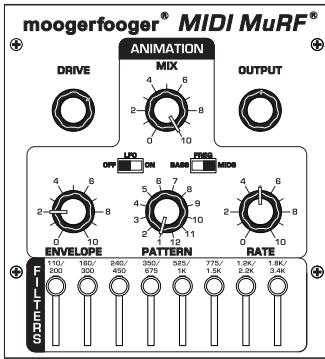
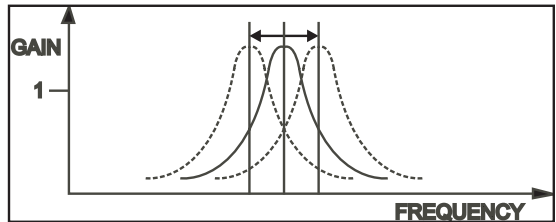

Figure 5 - Testing the Filters
Figure 8 - Filter Frequency Shift
We'll now show how the MIDI MuRF's filters affect the MF-105M's frequency response. We will always start with this 'basic' panel setup, shown in figure 5, which is:
7) The Filters' resonant frequencies can be shifted up and down by a small amount to create an effect similar to phasing. Figure 8 shows a graph that portrays the results of shifting a resonant filter's center frequency. In the MIDI MuRF this can be done two ways, depending on the position of the LFO slider switch. When the slider is in the "OFF" position, the filters' center frequencies can be shifted by an expression pedal (such as the Moog EP-2) or CV plugged into the LFO/SWEEP Jack. To hear how this works, return to the basic setup described in Figure 5. Plug a Moog EP-2 into the LFO/SWEEP control input. Then, as you play into the MIDI MuRF, rock the EP-2 back and forth. You will hear the filters' frequencies shift with the motion of the pedal.
To hear the effect of the LFO on the MIDI MuRF's filters, return to the basic setup outlined in figure 5, then move the LFO slider switch to "ON". Now as you play through the MuRF, you'll hear the filters swept up and down automatically. To change the speed of the LFO, plug a Moog EP-2 expression pedal into the LFO/SWEEP Control Input. The EP-2 can now slow down or speed up the LFO.